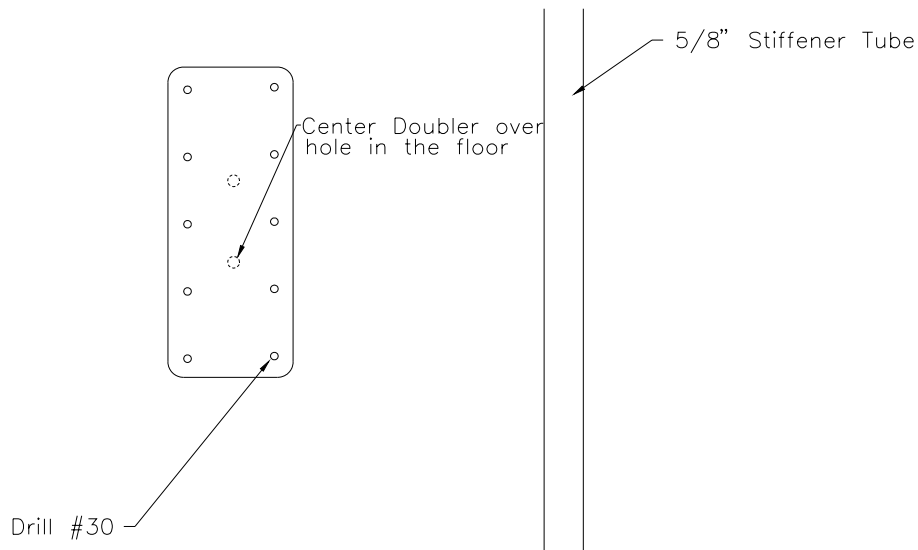

Figure 20.2.3
- 8) Center doubler over the bearing block at the center of the floor. Drill #30 holes around the outer edge of the doubler and cleco. Figure 20.2.3.